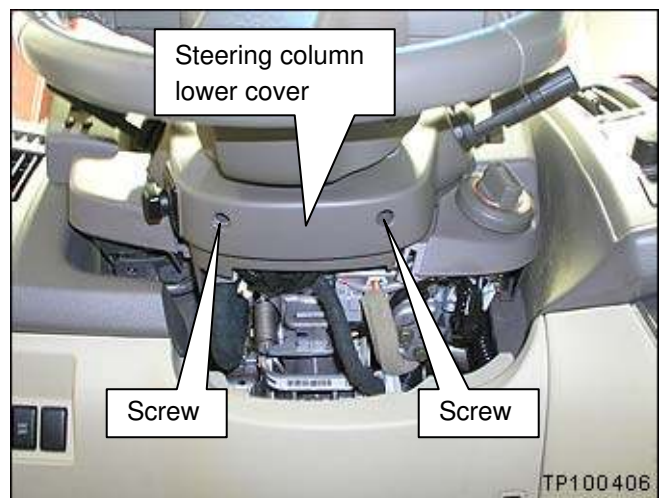

Figure 2
- a. Remove 2 screws shown in Figure 2.